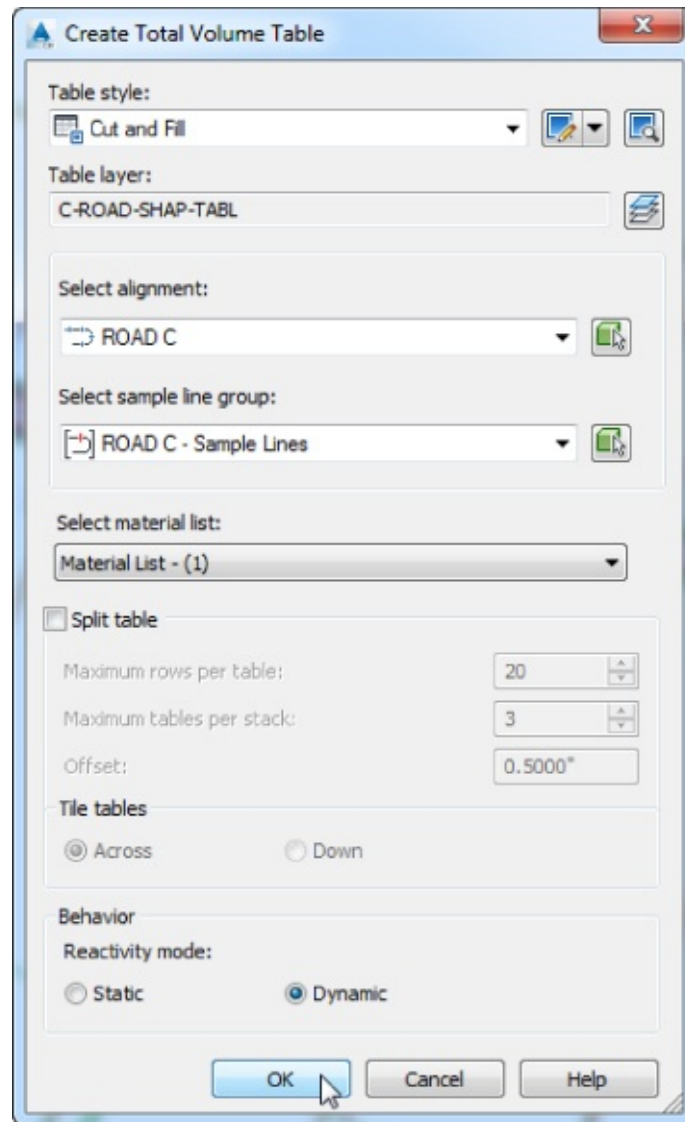

Figure 12.19 The Create Total Volume Table dialog settings
4. Verify that your settings match those shown in Figure 12.19.